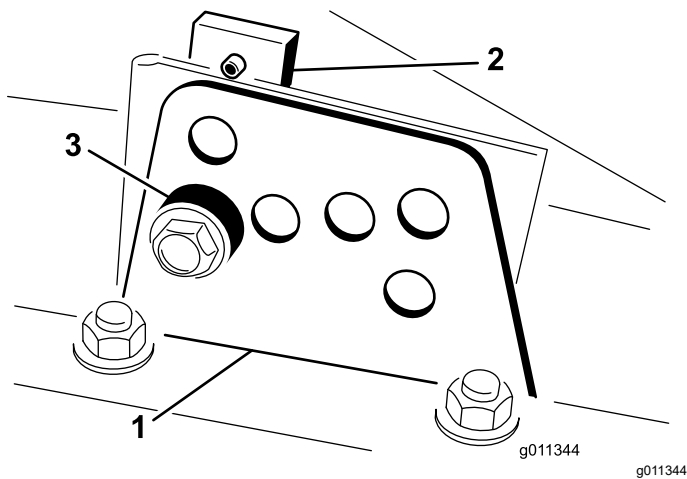

Figure 3
- Loosen the bolt securing each height-of-cut bracket to the height-of-cut plate (front and each side) (Figure 3).
4. While supporting the chamber, remove the spacer (Figure 3).